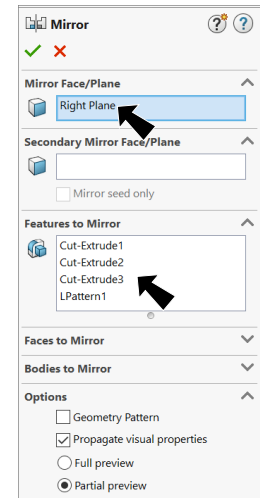

Fig. 19
Step 3. In the Mirror Property Manager click **OK** , **Fig. 19.**